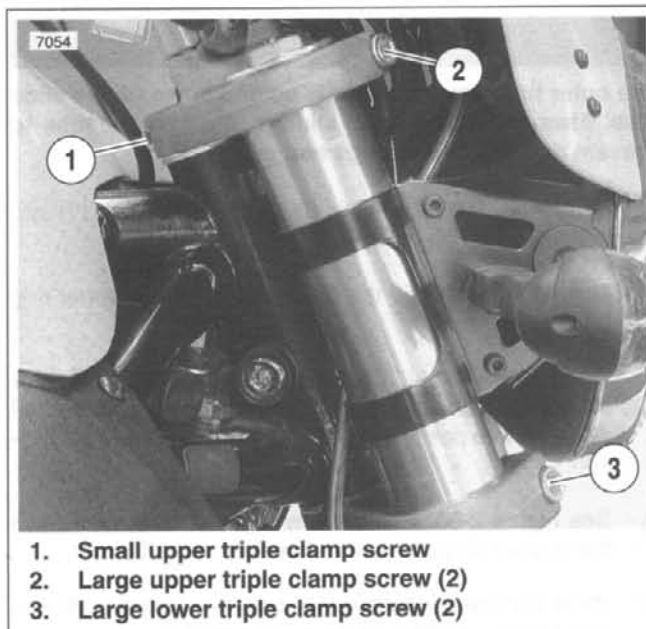

Figure 2-103. Front Fork Fasteners
2. See Figure 2-103. Spread LOCTITE ANTI-SEIZE on the last three threads of all five triple clamp pinch screws. Loosely install triple clamp fasteners. If removed, small screw (1) installs at rear of upper triple clamp.